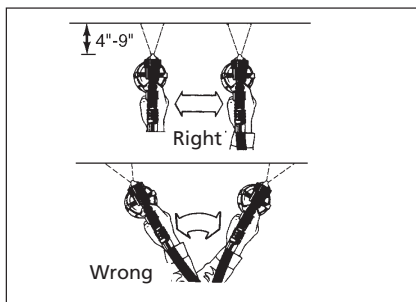

Figure 11 - Painting Strokes
- Keep the gun 4" - 9" from, and parallel to the surface of the object being sprayed. (See Figure 11). If the material delivery is adjusted for a small narrow pattern, it may be necessary to move as close as 2" from the work surface.